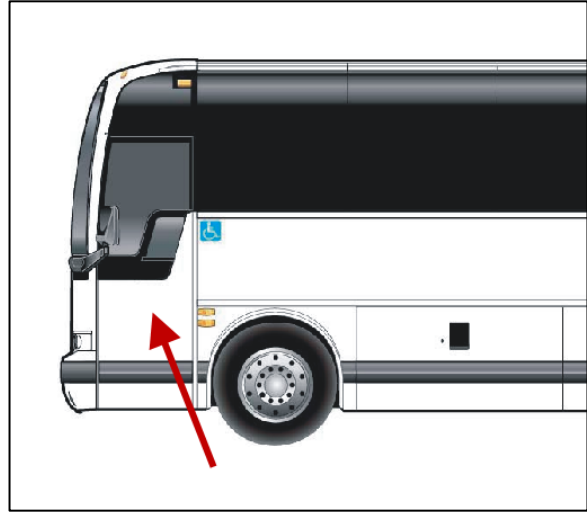

Figure 3
5. Locate the front service compartment (Figure 3).